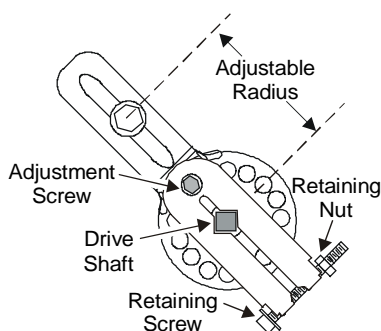

Figure 3: LVR27A-602 Actuator Crankarm
8. Tighten the retaining nut on the crankarm (shown in Figure 3) with an 11/32 in. combination wrench.